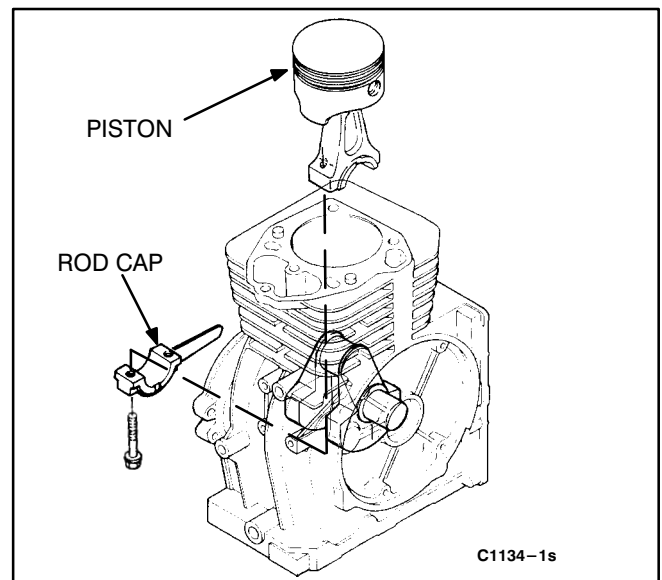

FIGURE 9-18. PISTON REMOVAL
2. Remove the rod cap from the rod and push the piston assembly out the top of the cylinder (Figure 9-18). Be careful not to scratch the crank pin or the cylinder wall when removing the piston.